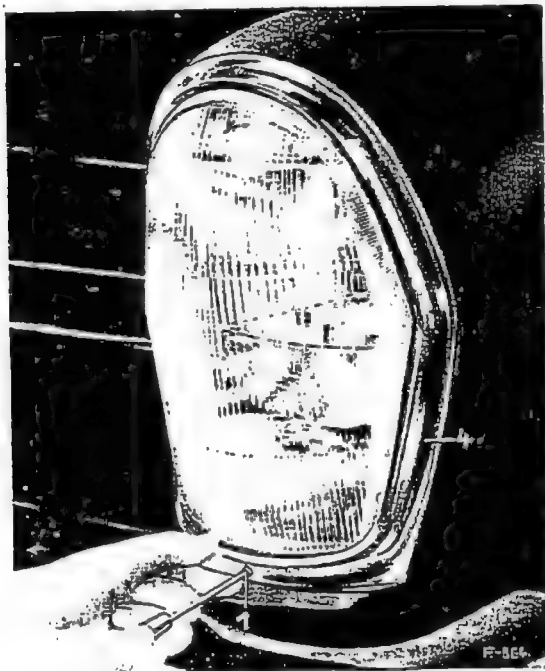

Fig. 82-1/1
1. Remove the oval head countersunk screw (1) on the ornamental ring (4) and take off the ornamental ring (Fig. 82-1/1).